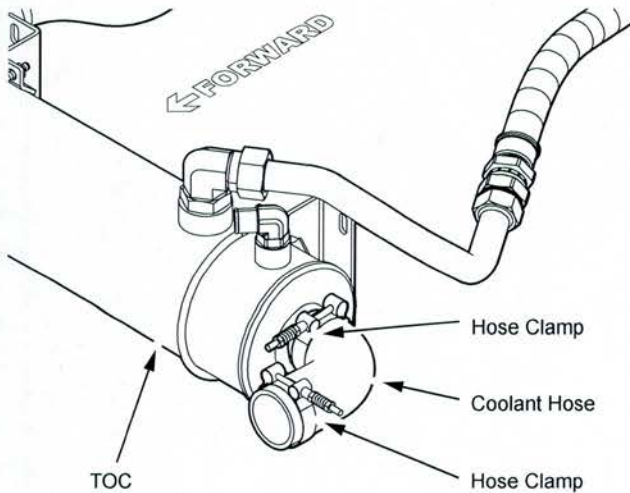

Figure 4
9. Disconnect the coolant hose (see Figure 4).